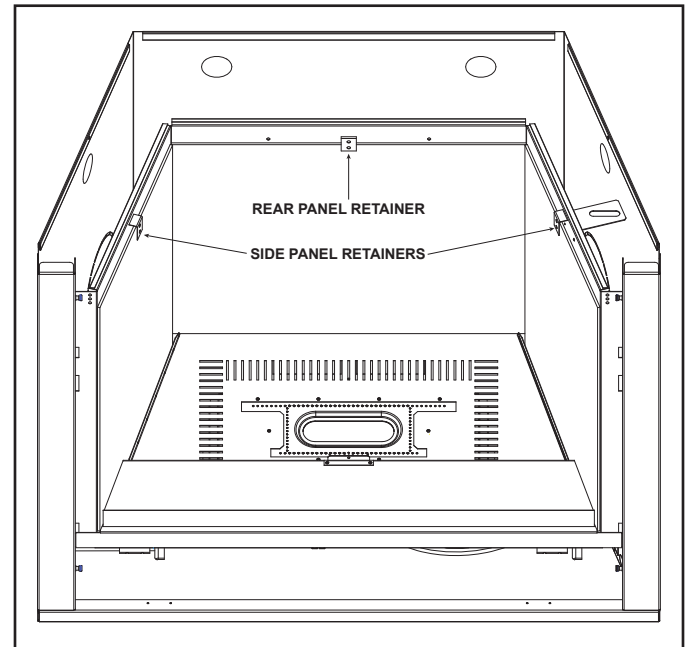
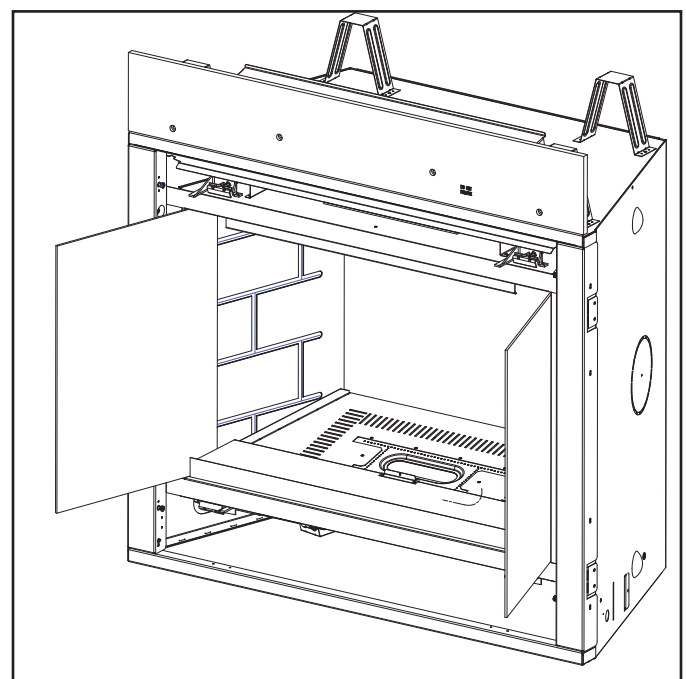

Figure 4.3 Remove Glass Panel Retainers
Figure 4.4 Glass Panel Removal
2. Remove the side glass panel retainers (if equipped). See Figure 4.3. Slide the side glass panels out of the appliance as shown in Figure 4.4.
3. Remove the rear glass panel retainer (if equipped), shown in Figure 4.3, and lift the rear glass panel out of the appliance.